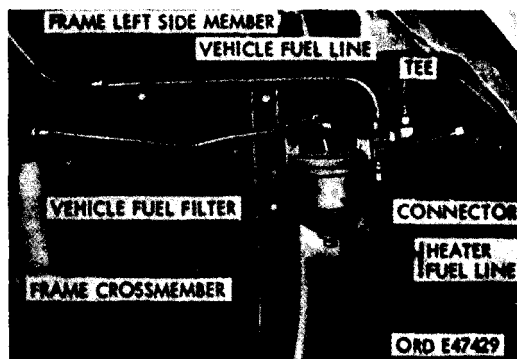

Figure 640. Heater fuel line connection at vehicle fuel filter
- (1) Disconnect the vehicle fuel line from the inlet side of the fuel filter on the left side of the frame cross member (fig. 640).
- (2) Remove the tee and connector from the end of the heater fuel line (G, fig. 625) end install the tee into the inlet side of the vehicle fuel filter (fig. 640).
- (3) Connect the free end of the vehicle fuel line to the top end of the tee (fig. 640).
- (4) Connect one end of the heater fuel line to the bottom end of the tee on vehicle fuel filter (fig. 640). Pass the line under the vehicle alongside the frame cross member, then rearward behind the curved mud-shield plate toward heater fuel filter (V, fig. 636). Connect fuel line to the filter.